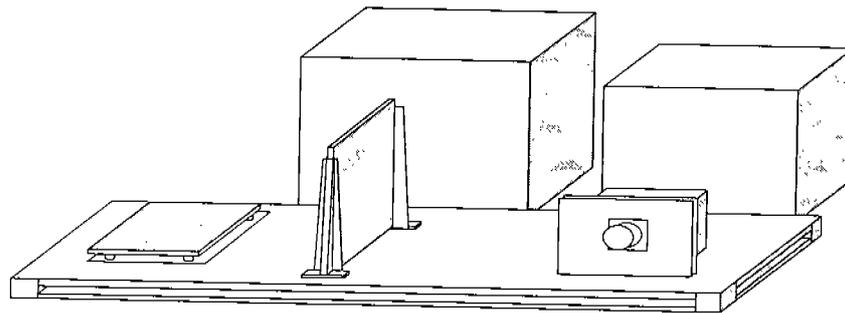

FIGURE 1-3 Isometric view of Test Stand
- 6.1.3.1 Replace the checkout shunt module with the test unit. (Figure 1-3).